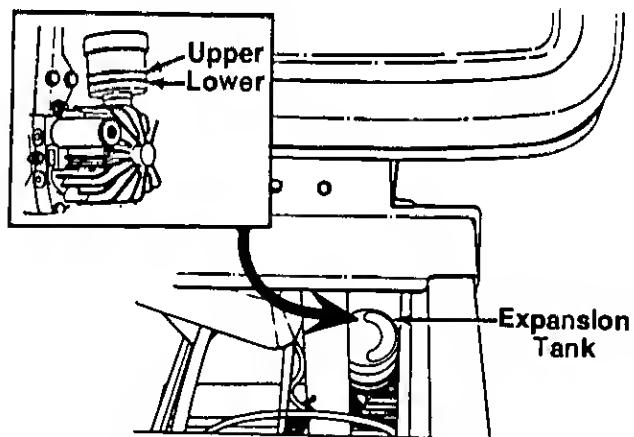

FIGURE 17.
The transmission fluid level should be checked prior to initial use. The level should not be above the LOWER mark which is about  $\frac{1}{4}$ " from the bottom of the expansion tank. See figure 17. Overfilling reduces the expansion area in the expansion tank and fluid will spill at operating temperatures.
3. Check the fluid level in the expansion tank. See figure 17.